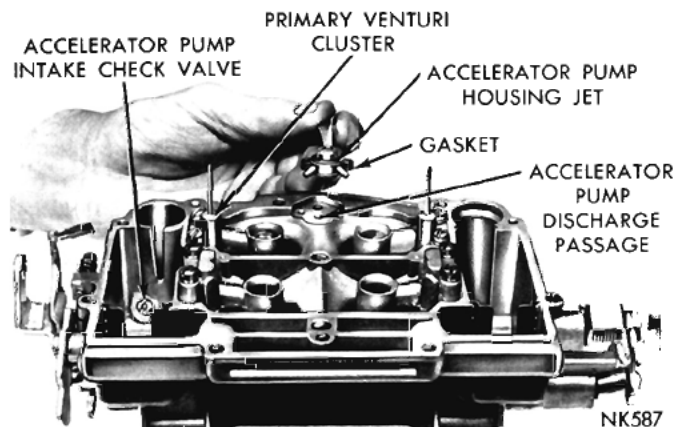

Fig. 3—Removing or Installing Accelerator Pump Jet Housing
(1) Remove the screws that attach the accelerator pump jet housing to the main body. Lift out the jet housing and gasket as shown in (Fig. 3). Discard the gasket. Now, invert the main body and drop out the discharge check needle from the discharge passage.